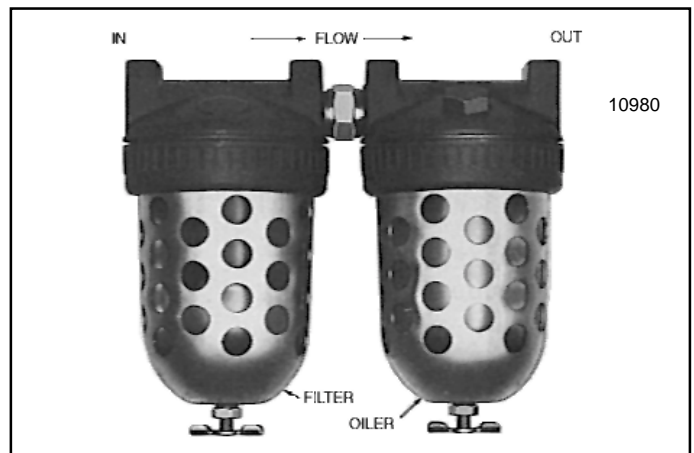

Figure 2-2. Air Filter and Lubricator Unit
- c. A filter and lubricator unit (Figure 2-2) must be installed between air source and hoist, as close to hoist as possible. These keep air flowing to hoist free of dirt and add lubricant to air so internal parts of motor are constantly lubricated. Use a good grade of spindle oil, approximate viscosity 180 ssu at 100° F., air powered tool oil, or S.A.E. 10W machine oil. Yale•Lift-Tech distributors can provide filter-lubricator units.